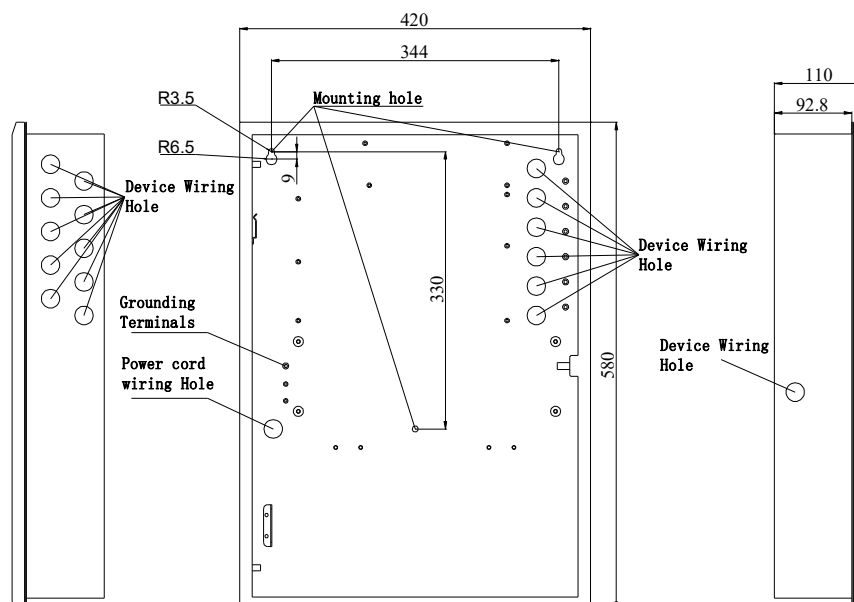

Fig. 2.1
This Fire Alarm Control Panel is suitable for both flush and wall mounting. Fasten the assembly via three 7 mm diameter mounting holes located on the rear panel. Please refer to Fig. 2.1 below for the mounting hole layout and dimensions.
- ✧ Mark the positions and pre-drill mounting bolt holes on the wall in accordance with the dimensions shown in Fig. 2.1.
Connect a wire from the grounding stud in the cabinet to a known solid earth ground in the buildings. Refer to Fig. 2.1 for location of the stud. This connection is vital for maintaining the FACP's immunity to unwanted transients generated by lightning and electrostatic discharge. Apply AC power to the panel only after the system is completely installed and visually checked. The FACP shall be connected to a dedicated 15 Amp branch circuit.